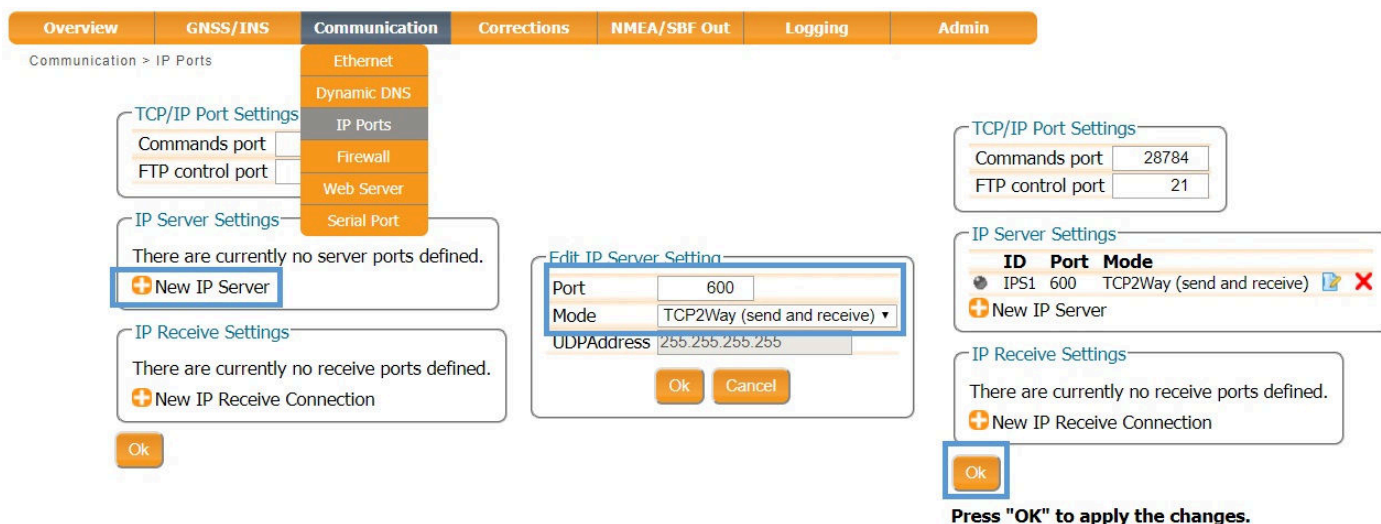

Figure 4-8: Configuring the TCP/IP server port setting for data output
The Ethernet port settings can be configured by selecting **IP Ports** from the **Communication** menu. In the example shown in Figure 4-8, port 600 has been configured as connection IPS1 in **TCP2Way** mode so data can be received as well as transmitted over the connection. When choosing a port number, avoid conflicts with other applications such as the commands port (28784), the webserver port (80), the FTP port (21) as well as the default NTRIP port (2101) and the NTP port (123).